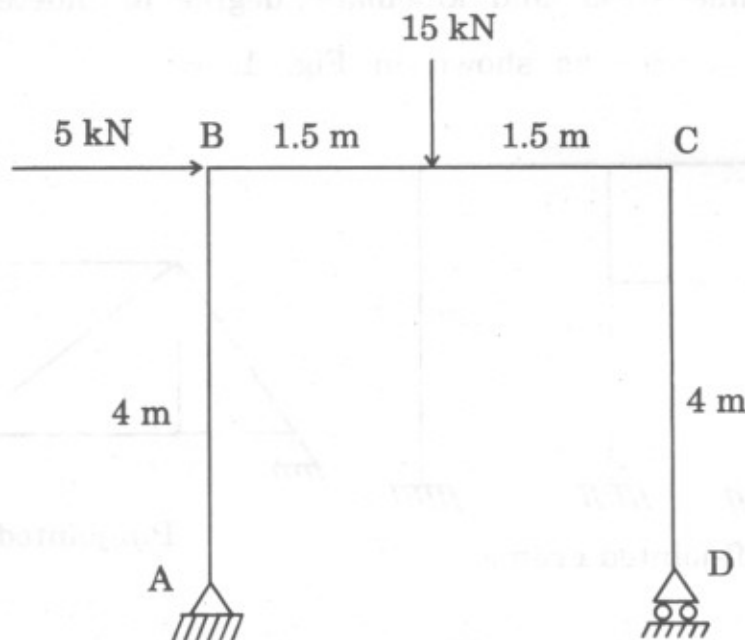

Fig. 3
- (C) A portal frame ABCD is hinged at A and has a roller support at D. It is subjected to loads as shown in Fig. 3. Find the horizontal displacement at D. Take  $EI = 35 \times 10^3 \text{ kNm}^2$ . [6]